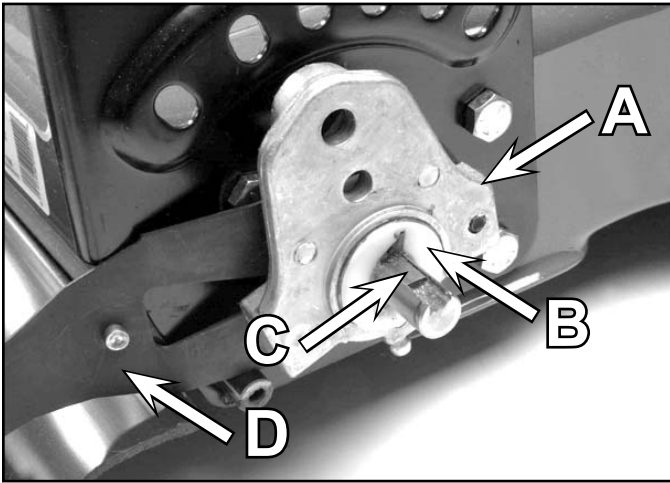

Fig 138
4. Assemble the spring arm and pivot arm as shown in Figure 138.